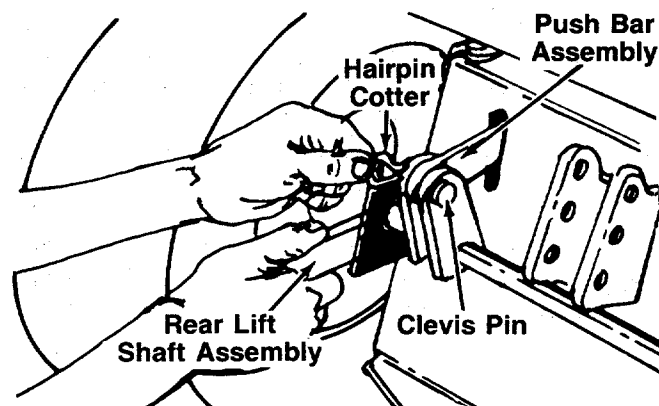

FIGURE 8.
1. Raise the lift shaft assembly until the hole lines up with the slot in the push bar assembly. See figure 8.